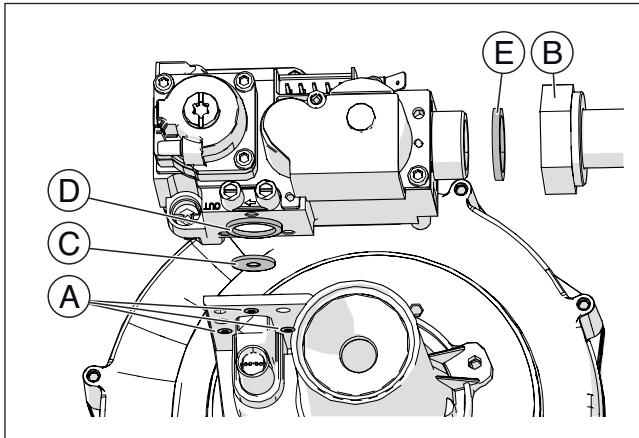

Fig. 23
- ▶ Unscrew the 3 screws 'A' and the swivel joint 'B' indicated in Fig. 23 to separate the valve from the fan